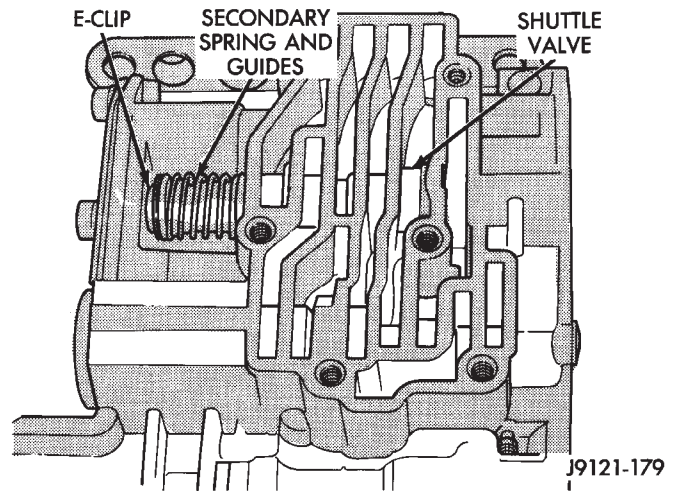

Fig. 120 Shuttle Valve E-Clip And Secondary Spring Location
- (2) Remove E-clip that secure shuttle valve secondary spring on valve stem (Fig. 120).